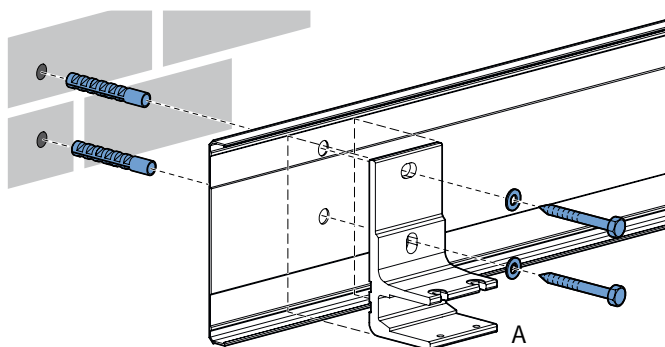

fig. 1.3b Installation of back cover and wall support
When the back cover is used, also drill the holes in the back cover. Install the back cover together with the wall supports (A). See figure 1.3b.